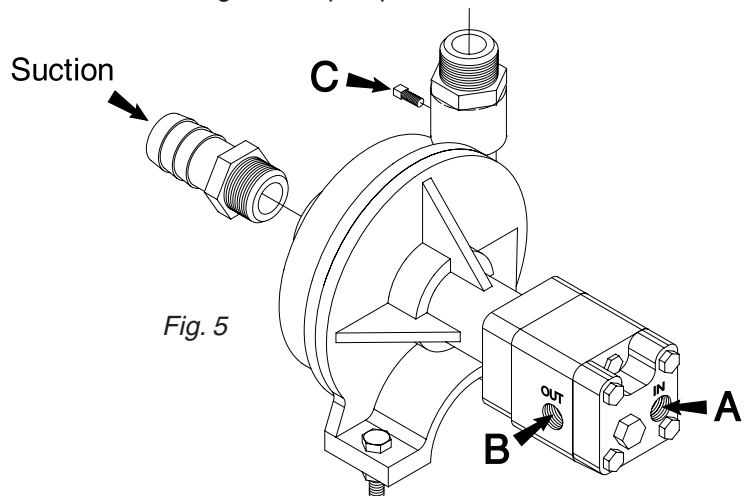

Fig. 5
2. Connect the pressure line **(A)** (Fig.5), IN port, to the tractor outlet port.
3. Connect the return line **(B)** (Fig. 5), OUT port, from the motor to the low pressure return line on the tractor. Failure to do so may cause the hydraulic motor seal to blow.
5. Bleed out all the air in the suction line by removing the plug **(C)** (Fig. 5) on the top rear side of the pump and wait until there is a full stream of fluid coming out. Reinstall the plug.